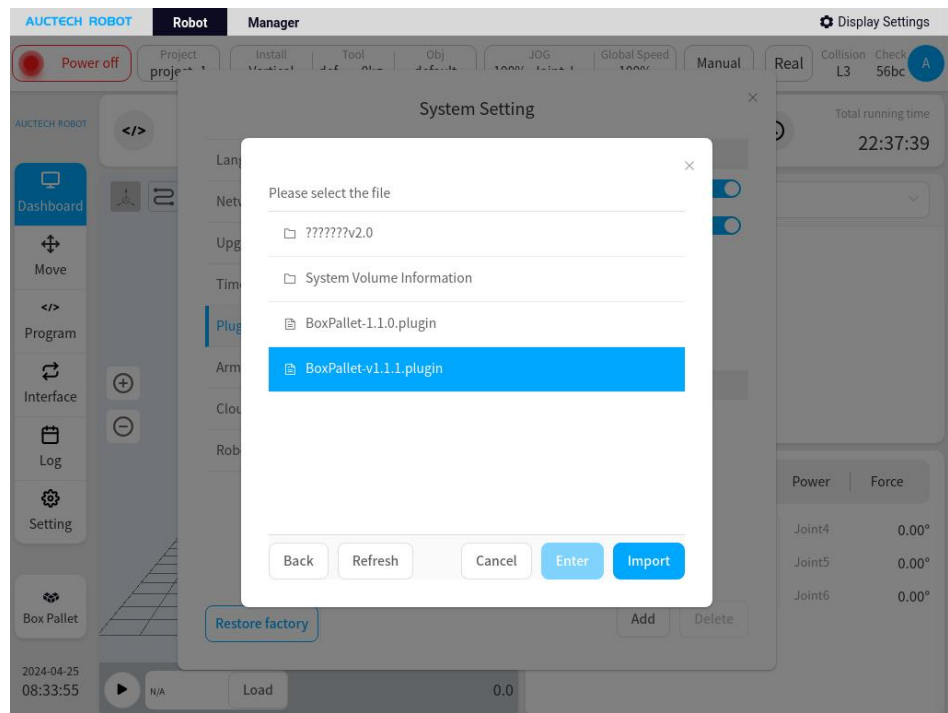

Figure 3
6、 select the USB flash drive and from the file list, find and select the “BoxPallet-1.1.1.plugin” plug-in package, as shown in Figure 3.